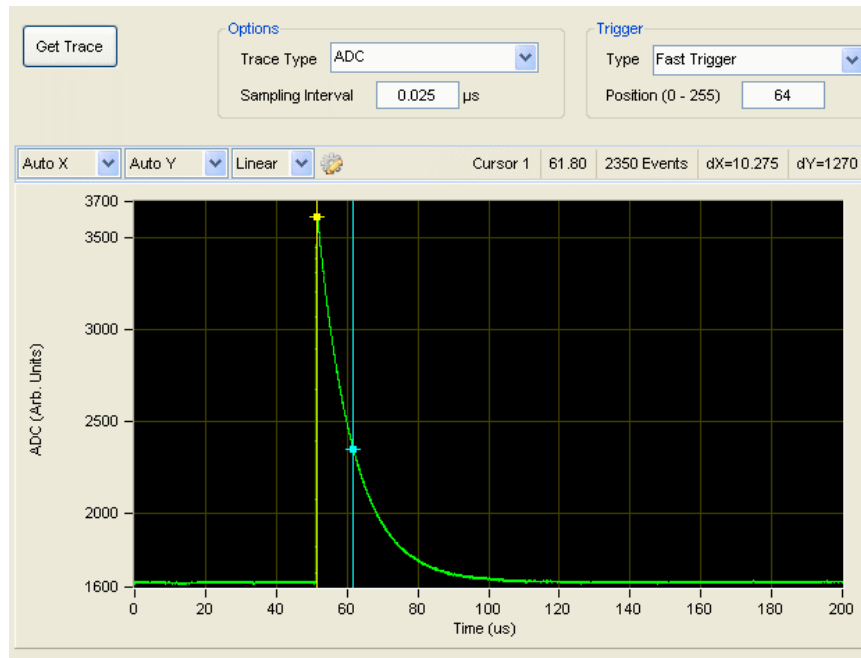

Figure 3-22: The RC decay time of the previous figure is measured to be 10.275 microseconds.
- The cursors should now be separated by the time constant τ , displayed in μs in the **dX** field, as in Figure 3-22 below.